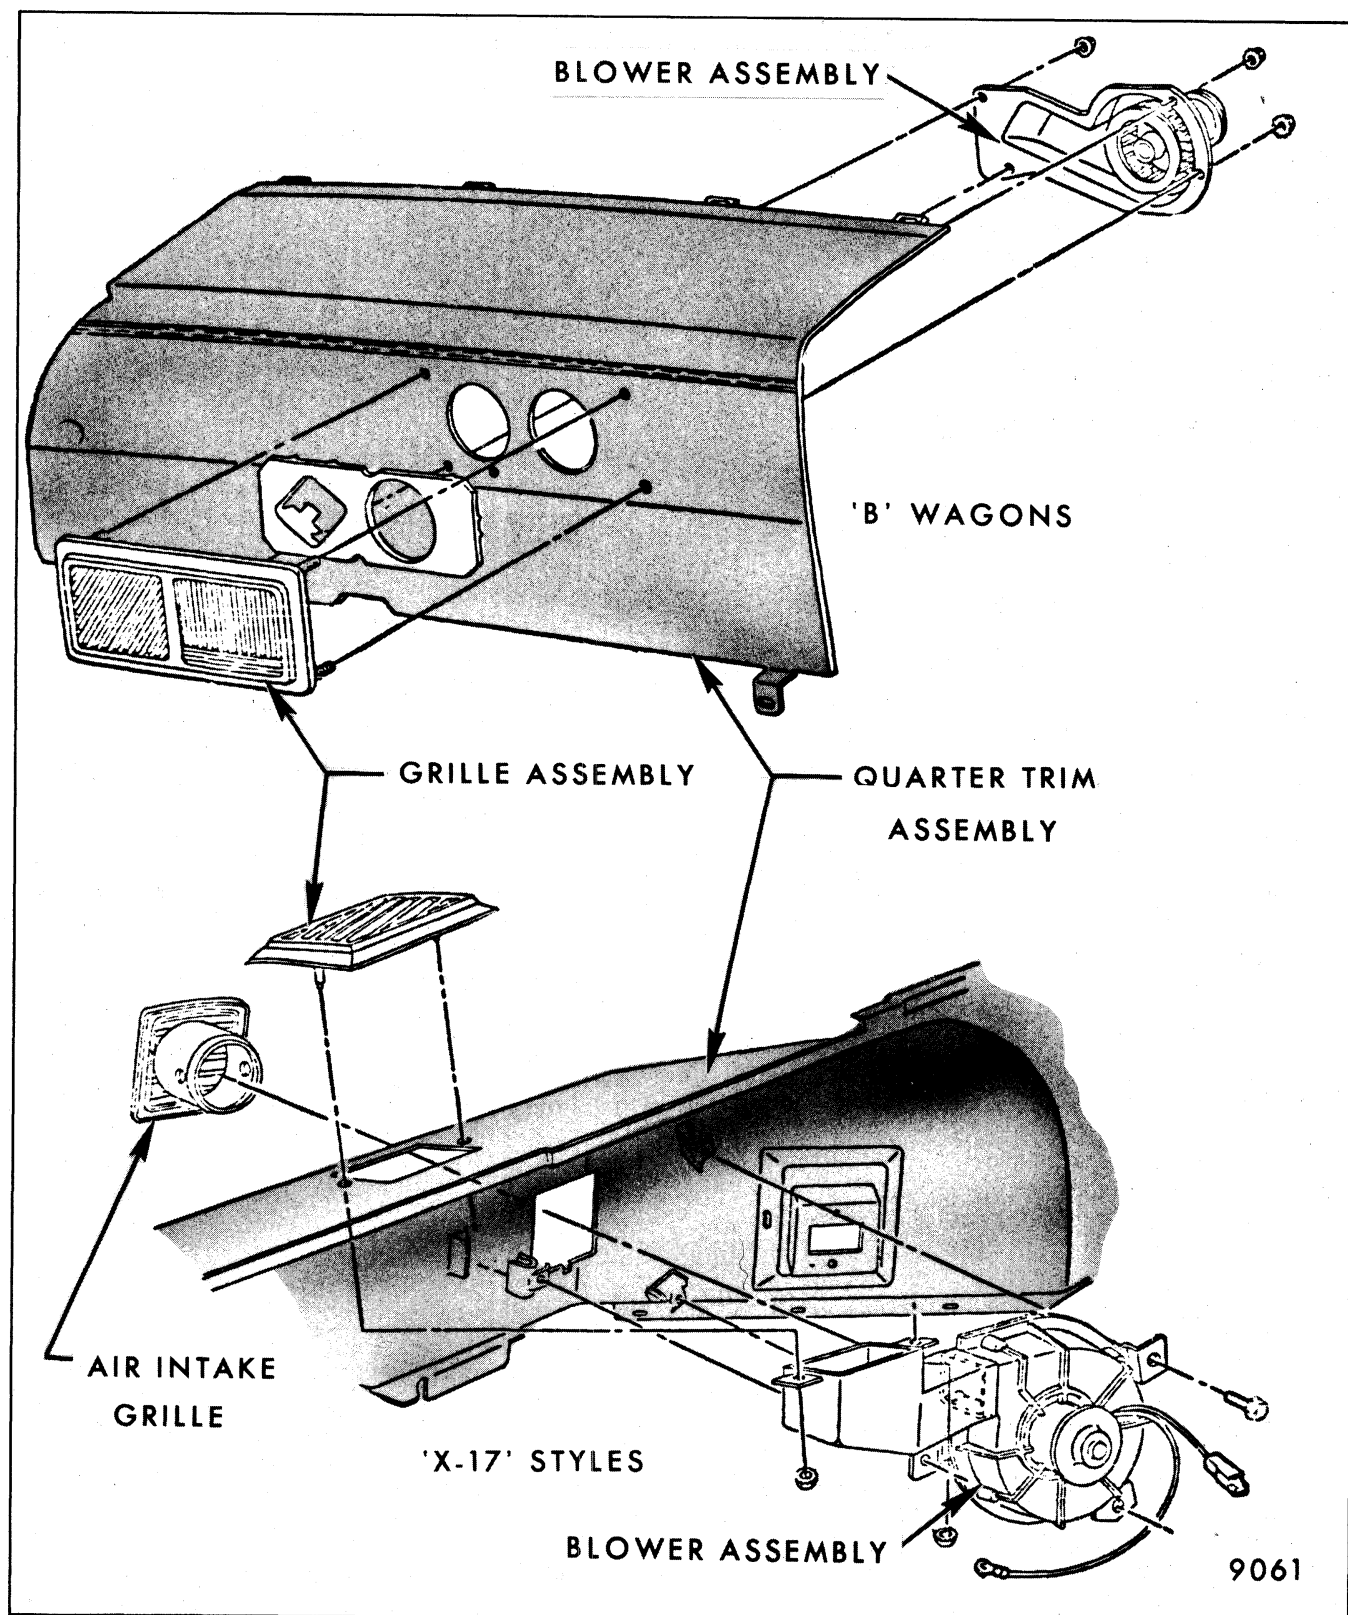

Fig. 6-29-Back Window Defogger - "B" Station Wagon and "X-17" Styles
Air is drawn into the motor assembly adaptor or duct at the intake grille and forced out through the outlet grille against the back window at the top or side of the quarter trim assembly (see Fig. 6-29).
3. On "X-17" styles remove three attaching nuts from blower adaptor studs to separate blower assembly from adaptor. Then remove two attaching nuts from both intake and outlet grilles to complete disassembly (refer to Fig. 6-29).
On "B-35 and 45" styles, remove four attaching nuts to separate blower assembly from grille, cover panel and screen (see Fig. 6-29).